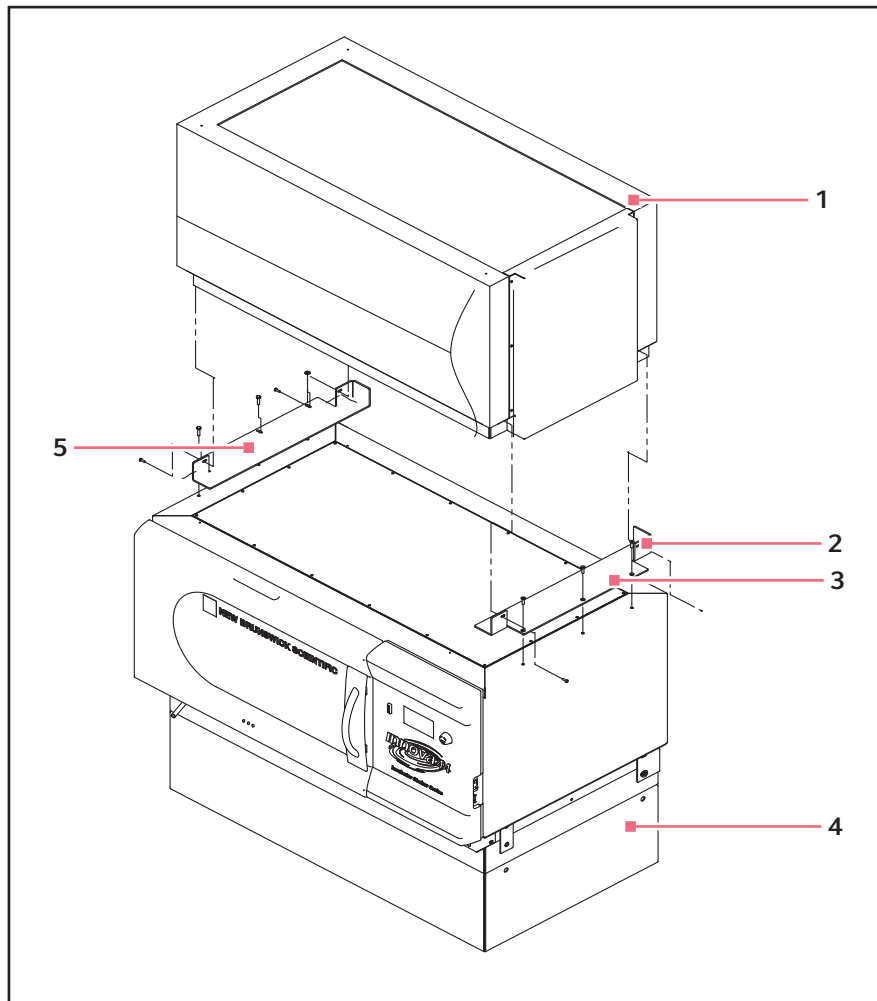

Fig. 6-6: Install 4400/4430 to 44/44R Stacking Kit
3. With reference to the figure below (see Fig. 6-6 on p. 27), remove the screws installed at the top of the bottom unit, on the two side edges.
4. As indicated (see Fig. 6-6 on p. 27), secure the bottom of the upper shaker to the mounting brackets with the screws, lockwashers and washers provided. Be sure to tighten the right side first, then secure the left side.